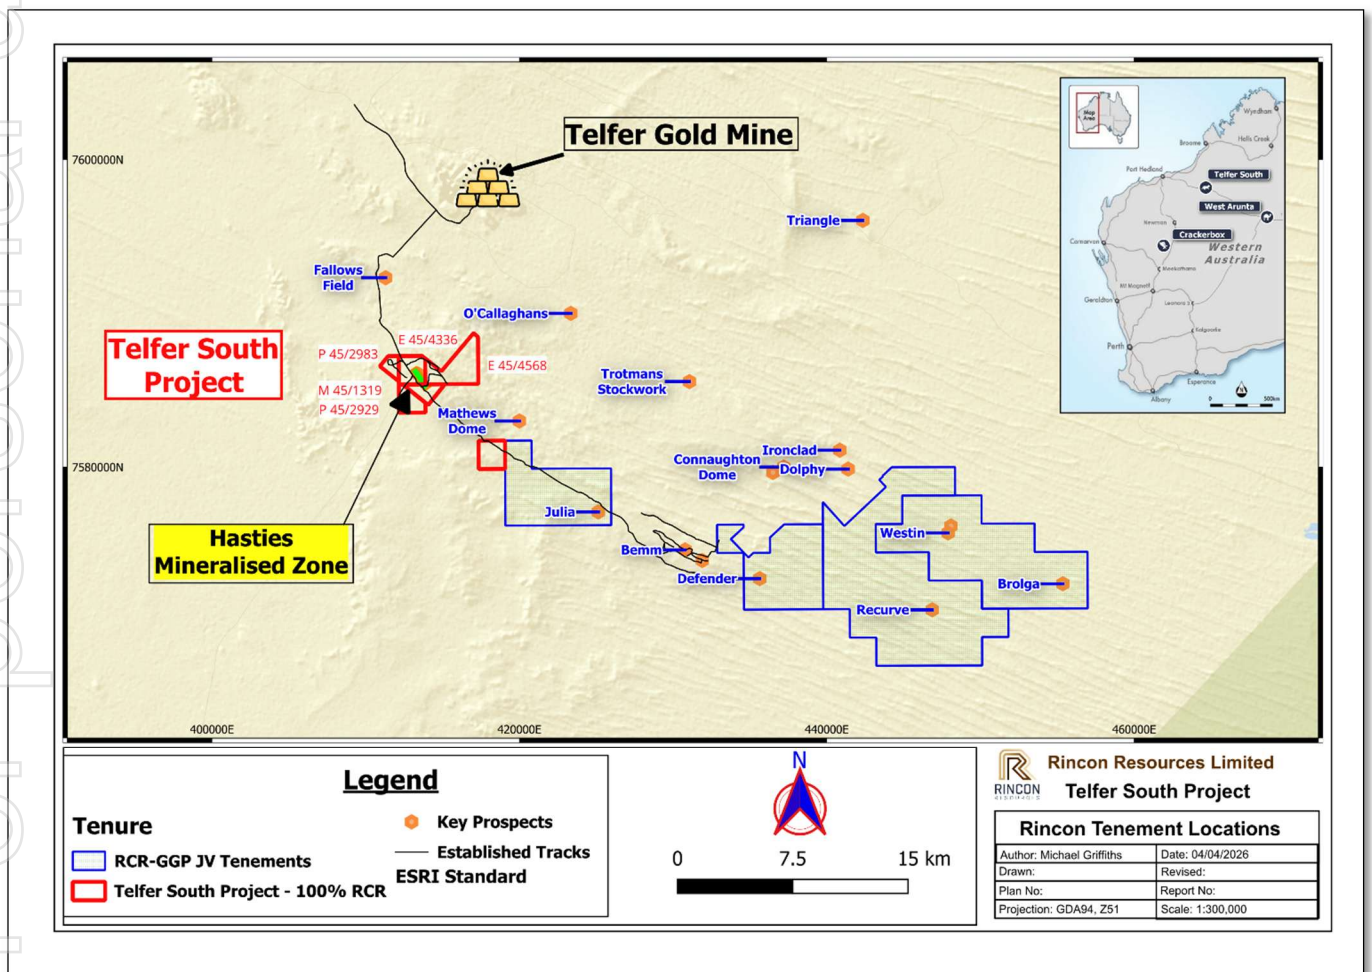

Figure 1 – Telfer South Project Location
**Rincon Resources Limited** (ASX: RCR) ("**Rincon**" or "**Company**") is pleased to announce the results of its recently completed Mobile MT geophysical survey. The survey covered the Telfer South Project, home to the Hasties Main and Hasties South-East Gold-Copper deposits, located approximately 10 km south of the Telfer Gold-Copper Mine in Western Australia's Eastern Pilbara region (Figures 1 & 2).